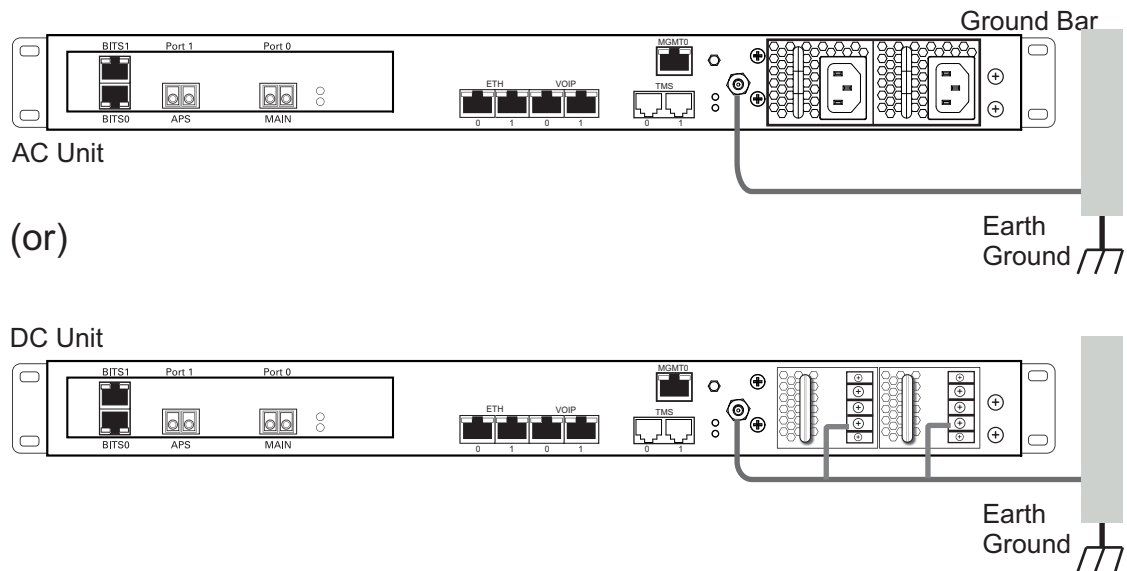

Figure 4.12 Chassis Ground Connection
- Do NOT daisy chain the ground between equipment. Use a ground bus bar, as show in figure 4.12 on page 40.
1. Connect one end of a ground wire to the ground lug of the 7800 Telecom unit. See figure 4.12 on page 40.